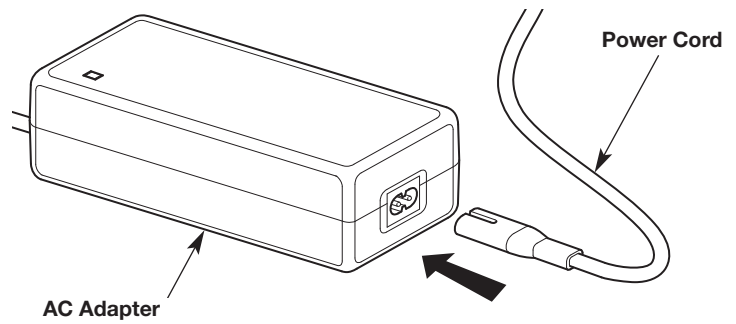

Fig. 6
1. Plug the power cord into the AC adapter (Fig. 6).